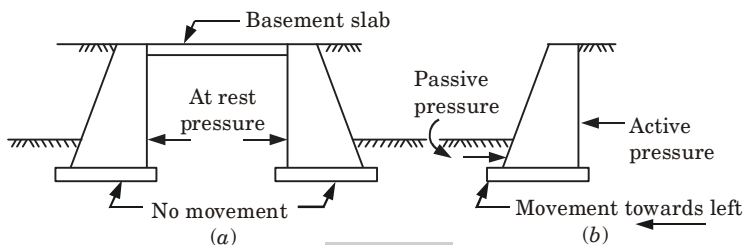

Fig. 5.1.1.
- iii. Fig. 5.1.1(a) shows the basement retaining walls which are restrained against the movement by the basement slab provided at their tops.
- iii. In Fig. 5.1.1(b), the active pressure develops on the right-hand side when the wall moves towards left.
- ii. In Fig. 5.1.1(b), the passive pressure develops on the left-side of the wall below the ground level, as the soil in this zone is compressed when the movement of the wall is towards right.